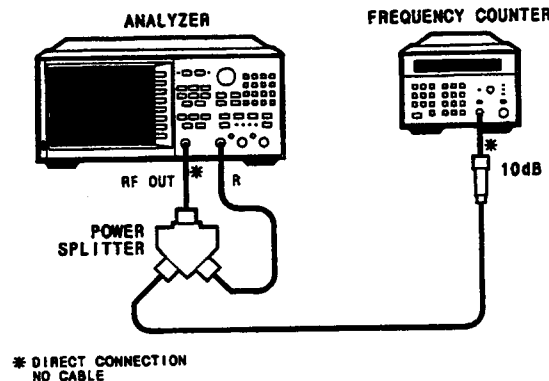

Figure 1. Frequency Range and Accuracy Test Setup
1. Connect the equipment as shown in Figure 1. Press **[PRESET] [MENU] [CW FREQ]**.